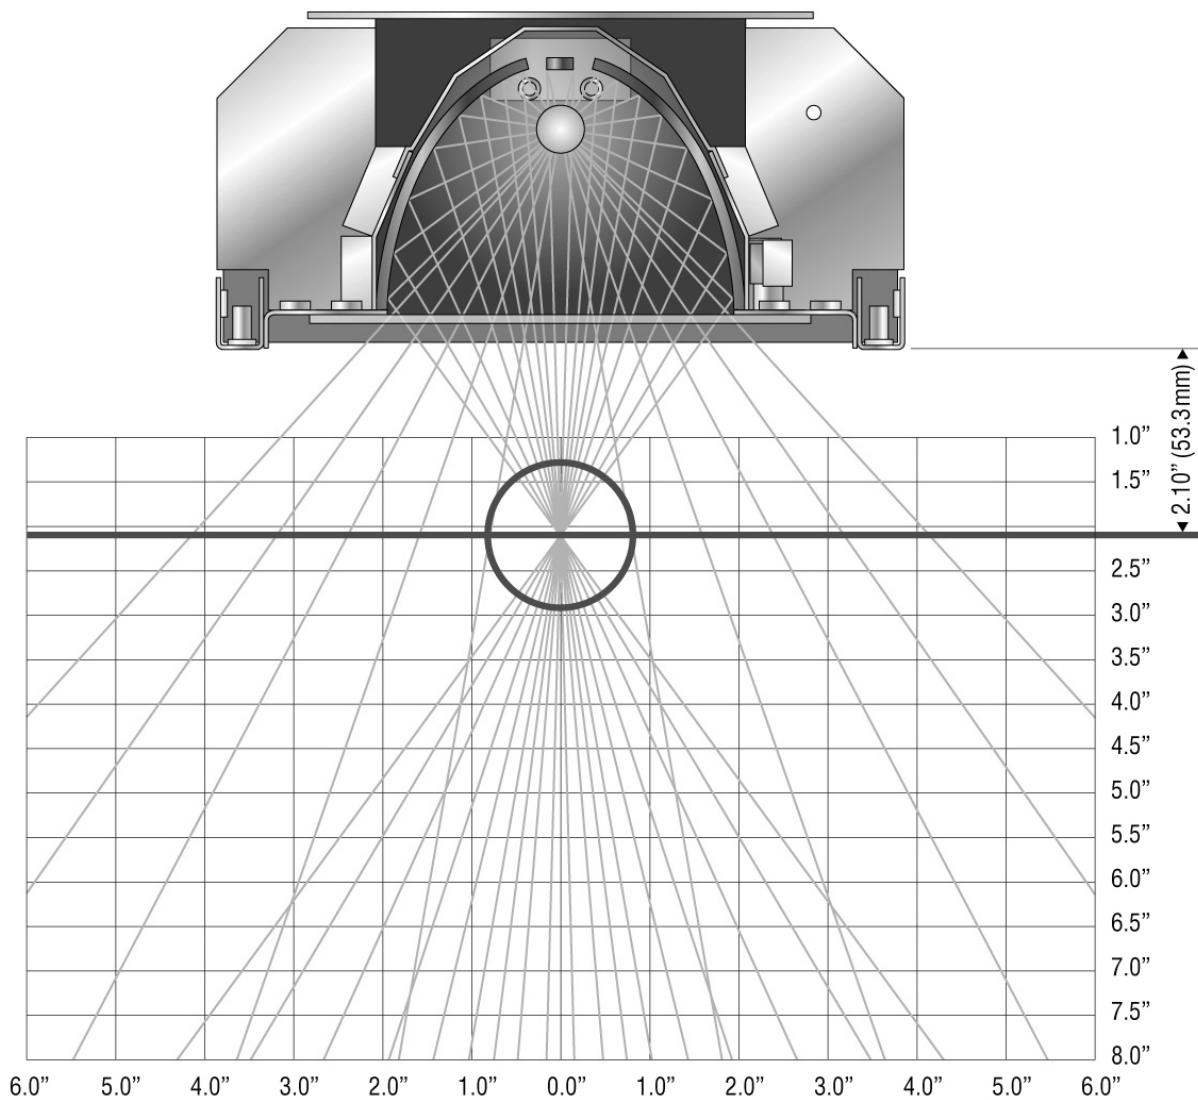

Figure 2-2 2.1-In. Focus Reflectors
- The focus reflectors are available in 2.1- (53.3 mm) and 3.1-in. (78.8 mm) focal lengths. The focal point is measured from the bottom of the lamphead. See Figures 2-2 and 2-3.